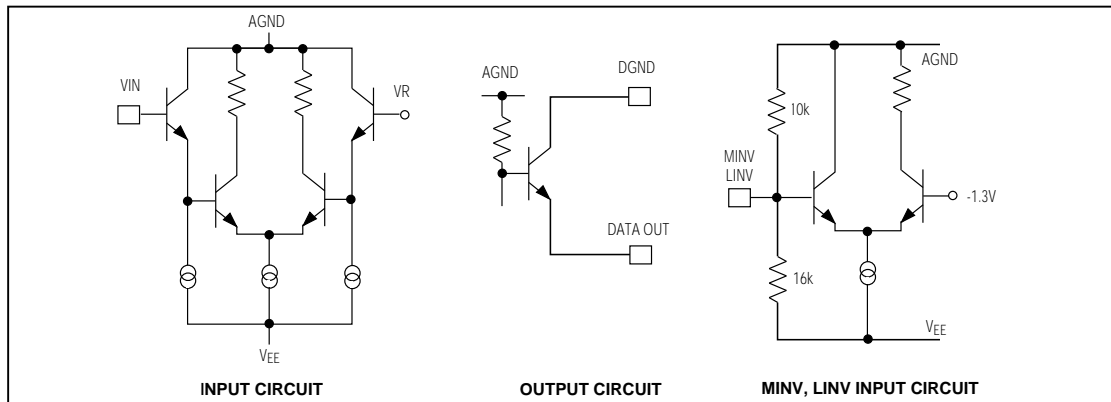

Figure 4. Subcircuit Schematics
There are two analog input pins that are tied to the same point internally. Either one may be used as an analog input sense and the other for input force. This is convenient for testing the source signal to see if there is sufficient drive capability. The pins can also be tied together and driven by the same source. The MAX1114 is superior to similar devices due to a preamplifier stage before the comparators (Figure 4). This makes the device easier to drive because it has constant capacitance and induces less slew-rate distortion. An optional input buffer may be used.
These are ECL-compatible digital controls for changing the output code from straight binary to two's complement, etc. (Table 1 and Figure 4). Both MINV and LINV are in the logic low (0) state when they are left open. The high state can be obtained by tying to AGND through a diode or 3.9kΩ resistor.